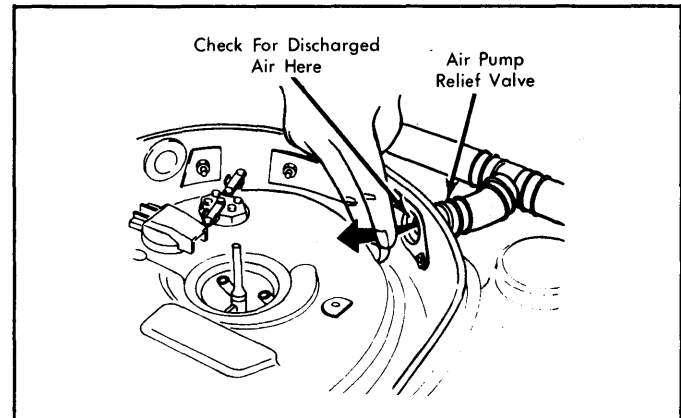

Fig. 3: Checking Air Pump Relief Valve
- Federal Models** - 1) With engine at normal operating temperature, disconnect hoses to check valve and relief valve from air hose connector and cap off connector. See Fig. 3.